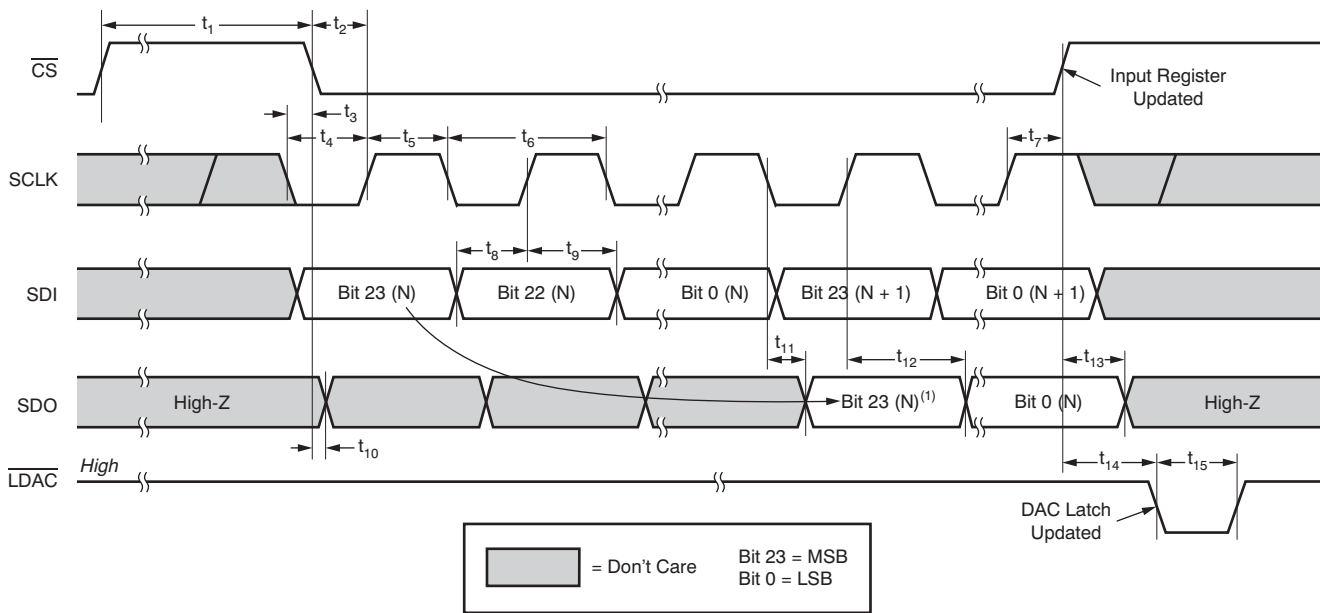

**Figure 2. Timing Diagram for Standalone Operation with SDO**
**TIMING CHARACTERISTICS for Figure 2 and Figure 3(1)(2)(3)**